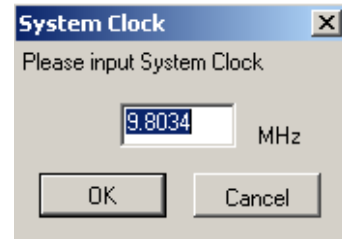

Figure 10: System Clock
- h.) Enter "9.8034" MHz in the System clock window and click <OK> (Figure 10).